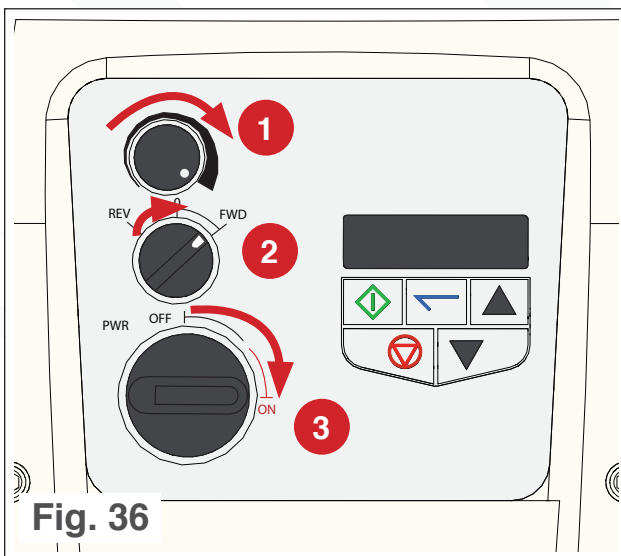

Fig. 36
2. Ensure the motor speed dial on the VFD is at maximum speed (see Fig. 36).
3. Ensure the vacuum direction dial is in the **FWD** position (see Fig. 36).
4. Twist the VFD power and lockout switch to the **ON** position (see Fig. 36).
- c. Remove the lower lid gasket from the top of the bin (see Fig. 36).